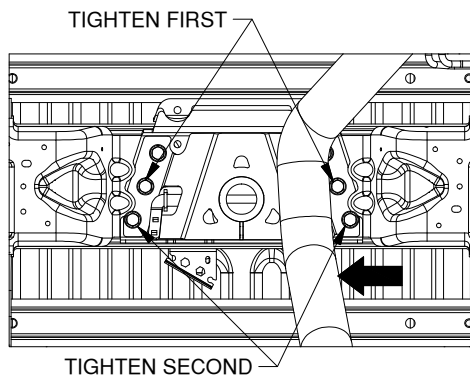
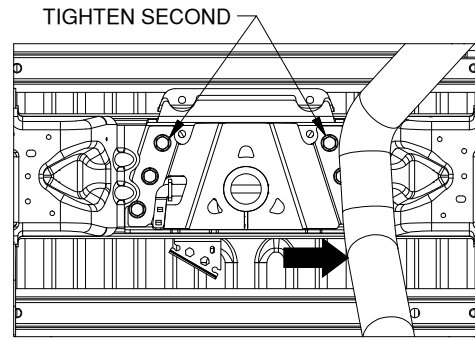

Figure C1: View under bed looking at center
Figure C2: View under bed looking at center.
2. **Tighten the bolts.** With the hitch square and firmly pressed against the frame cross member, tighten the 5/8" bolts. Tighten the center bolt of each three-bolt pattern first, see figure C1. Then tighten the rest, see figure C2. To better access the bolts on the passenger side of the center section move the exhaust as needed to allow access to the bolts. Torque the bolts to 100 ft. lbs.